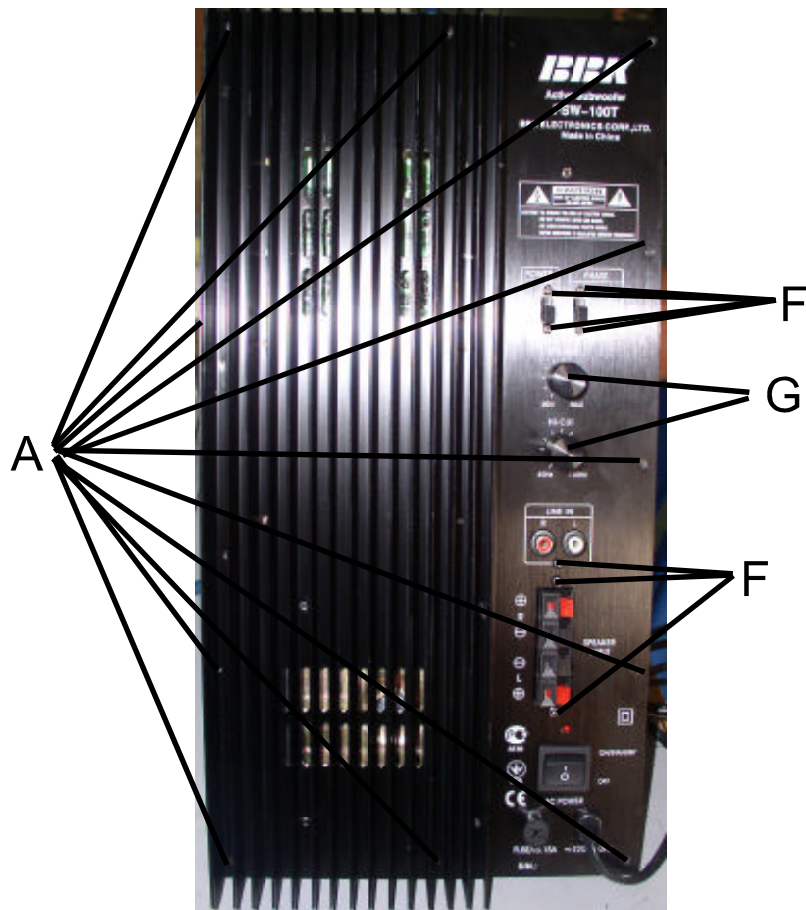

Fig.1
- Take away the 11 pcs screw A (fig.1);
- Take away the 7 pcs screw F (fig.1);
- Pull out the knob and disassembly the 2 nuts G under it (fig.1);